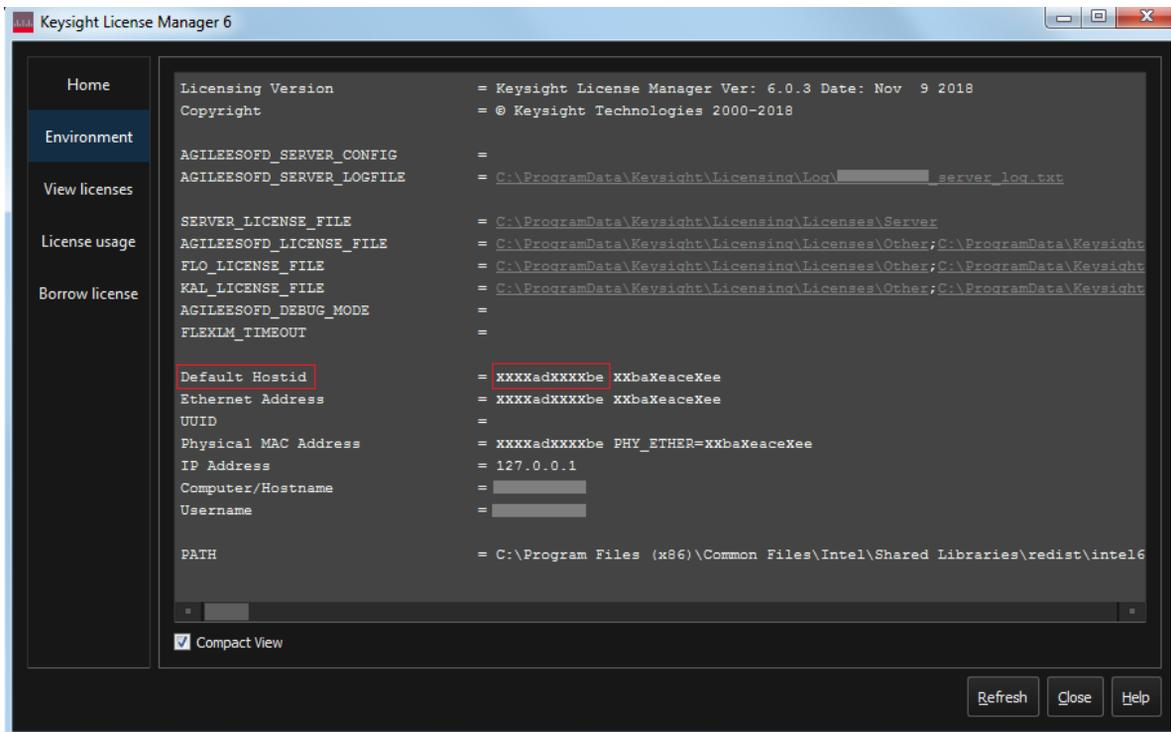

Figure 6 Viewing the Host ID information in KLM 6
- 2 Copy the Host ID, which is the first set of alphanumeric values (as highlighted in Figure 6) that appears in the Environment tab of the application. Note that x indicates numeric values.